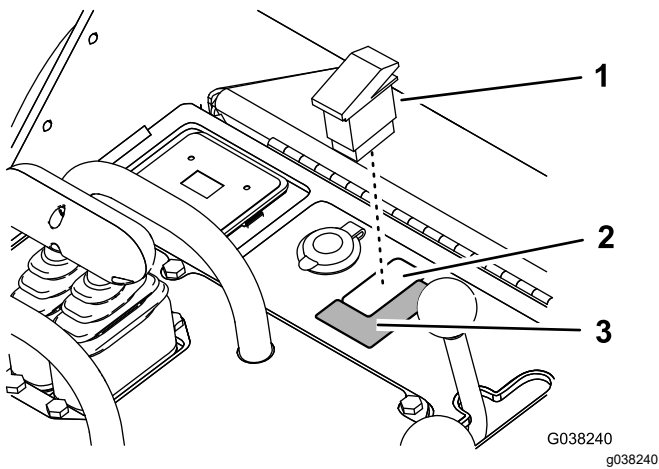

Figure 28
1. Remove the plug from the console and install the switch (Figure 28).
- 2. If the decal on the console does not show the rabbit and turtle symbols near the switch, affix the kit decal (Figure 28).